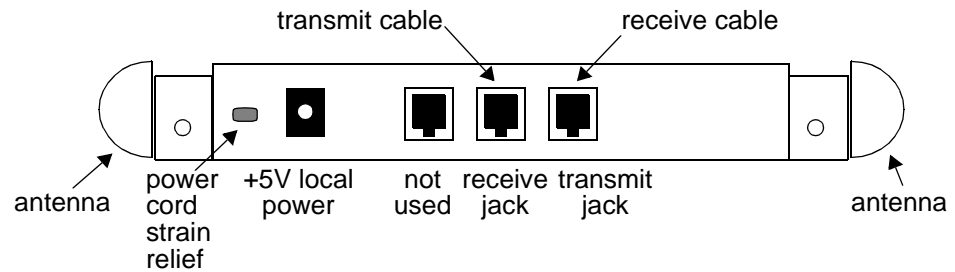

Figure 3-5. Base Station Connections
- 6 Connect the transmit cable (pair 21 or 25) to the base station's receive jack (see Figure 3-5).
- 7 Connect the receive cable (pair 20 or 24) to the base station's transmit jack (see Figure 3-5).